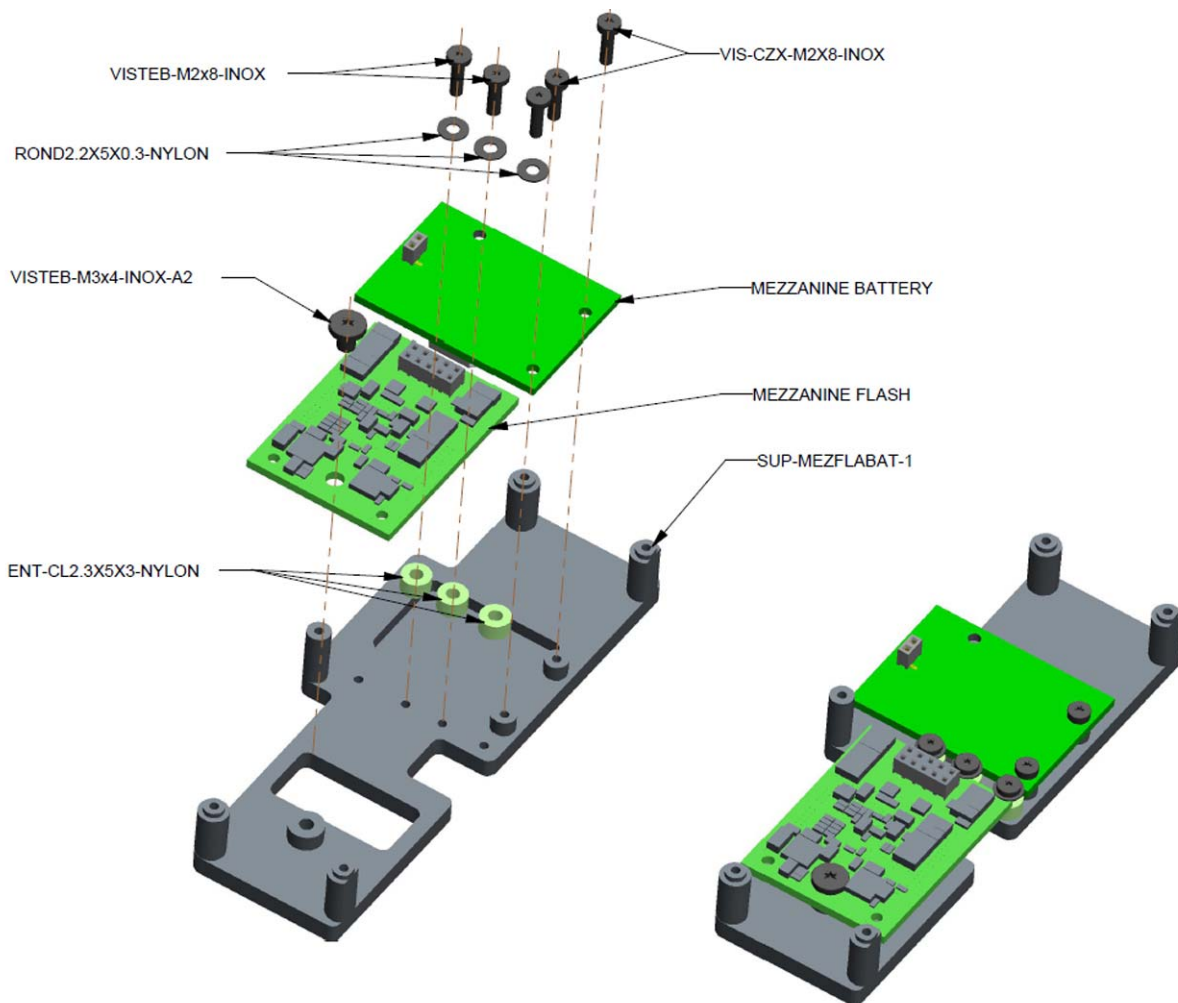

Figure 13: Mounting NAND device and/or battery mezzanine onto the holder with SUP-MEZFLABAT-1-V02
Use the 3 standoffs ENT-CL2.3X5X3-NYLON as shown in Figure 13 to mount the NAND device onto the holder.
- Unmount the battery mezzanine from the holder (unscrew the five M2, 8mm, stainless steel screws) as shown in Figure 13 page 26.
- Mount back the battery mezzanine onto the holder as shown in in Figure 13 page 26.